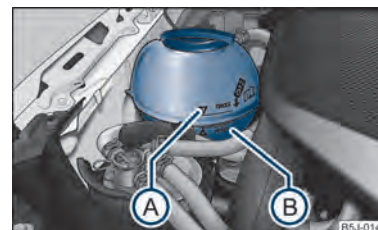

Fig. 130 Engine compartment: Coolant expansion bottle
- Check the level of coolant in the coolant expansion bottle ⇒ fig. 130. The coolant level when the engine is cold must lie between the "MIN" (B) and "MAX" (A) markings. The level may also rise slightly above the "MAX" marking when the engine is warm.
- Place a cloth over the cap of the coolant expansion reservoir → fig. 130 and unscrew the cap **carefully** by turning it to the left → ⚠.